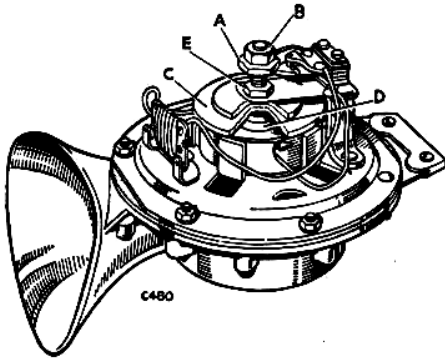

Fig. P-30—Horn adjustment. Clear Hooters.
- Connect the horn leads to a 12-volt battery and adjust nut (A) until maximum volume is obtained, then lock in position with nut (B). See Fig. P-30.